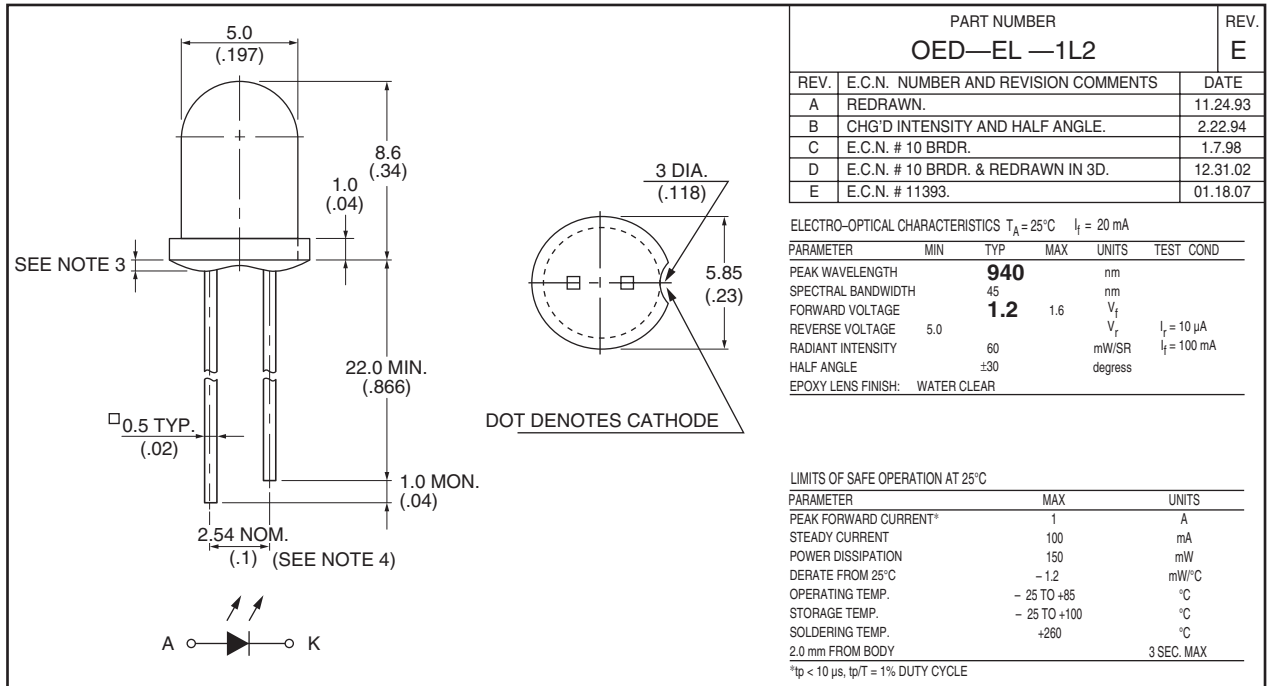

Figure 10-12 A typical infrared LED datasheet.
Figure 10-12 shows a typical infrared LED datasheet, stating a reverse voltage of 5 V and a continuous current rating of 100 milliamps (mA). Pulse current is shown at 1 amp (A), but you will need some fancy electronic trickery in order to get that much current into the LED without making a mini pyrotechnic show.